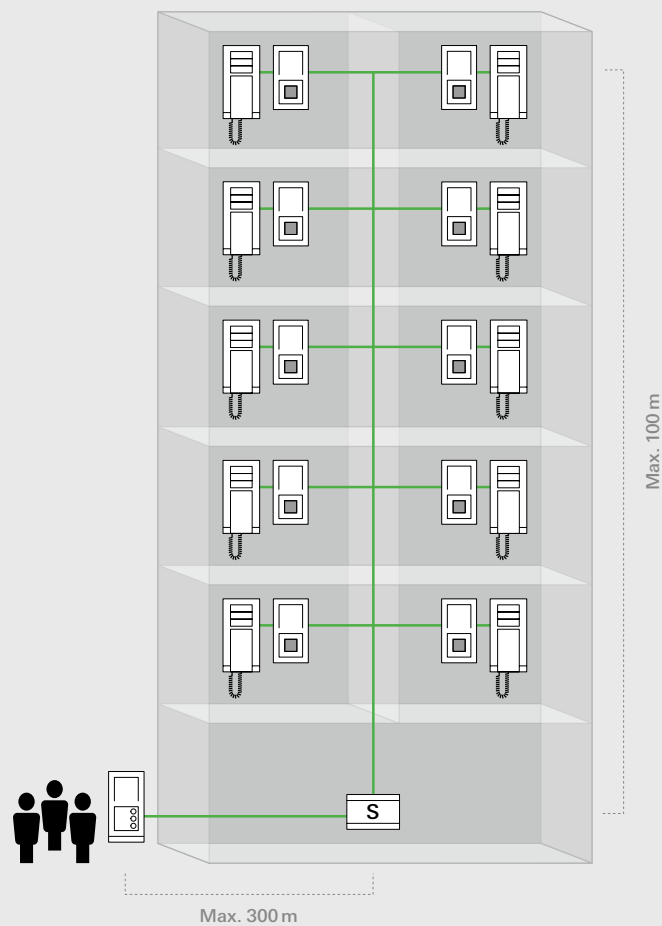

Fig. 19
**Multifamily houses with 10 private apartments, in each apartment: one ABB-Welcome audio indoor station with display and one ABB-Welcome audio indoor station with handset** **Fig. 19**